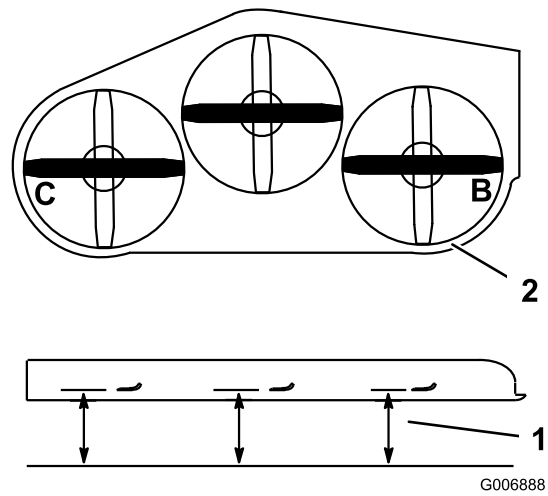

Figure 72
2. Measure at the **B** and **C** locations from a level surface to the cutting edge of blade tips (Figure 72).